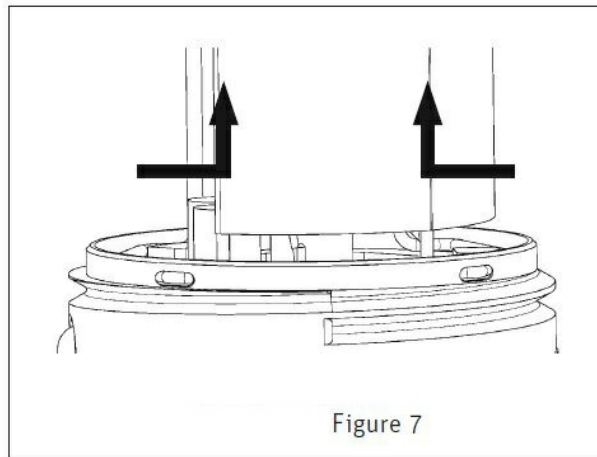

Figure 7
- Next carefully squeeze the frame of the pop screen simultaneously on both sides, so as to disengage the corners of the wireframe from the openings in the microphone housing (**see Fig. 7**). Then remove the pop screen with extreme care, without touching the capsule. In order to protect the capsule, the head grille should be temporarily screwed back in place. However, the microphone must without fail remain upright, with the head grille uppermost, since it is the pop screen that mechanically holds the electronics, together with the capsule, so that they are attached to the housing. If the microphone is positioned upside down when the pop screen is not in place, the electronics and capsule will both fall out and be damaged!